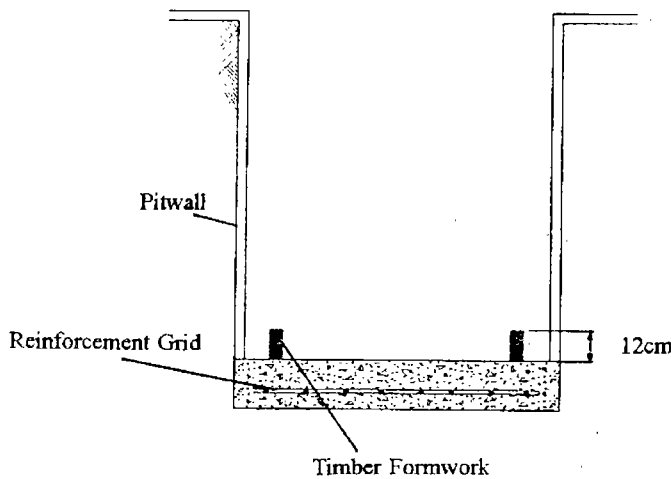

Figure 5. Placing the formwork
- When the floor has set for 3 hours, place the formwork 100 millimetres inside the edge of the floor (see Figure 5).